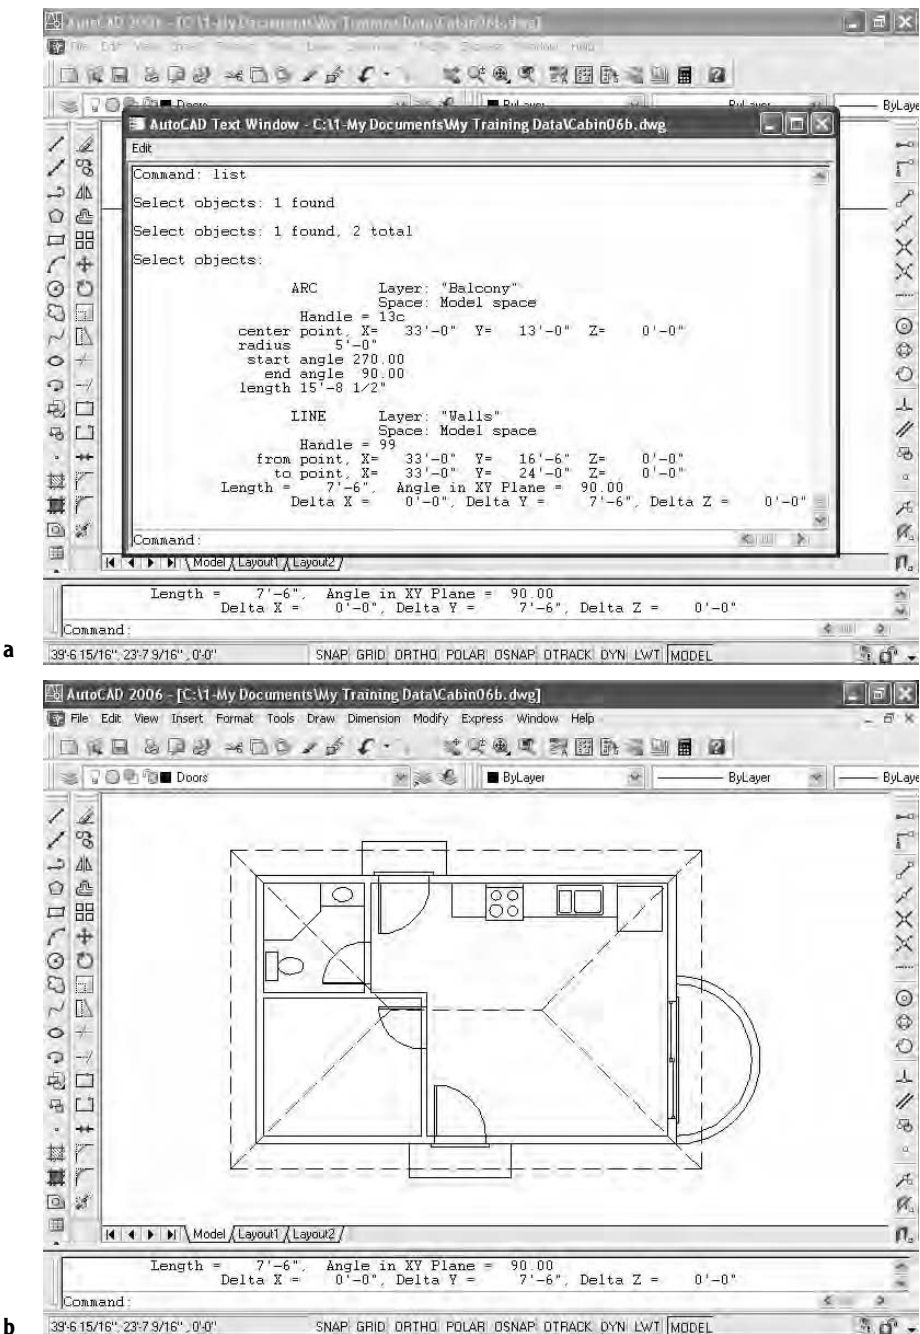

FIGURE 7.13: Toggling between the Text Window (a) and the drawing with its Command window (b)
7. Press F2, and then slowly press it a few more times. As you switch back and forth between the Text Window and the drawing, notice that the last three lines in the Text Window are the three lines of text in the Command window of the drawing (see Figure 7.13). The Command window is displaying a strip of text from the Text Window, usually the last three lines.